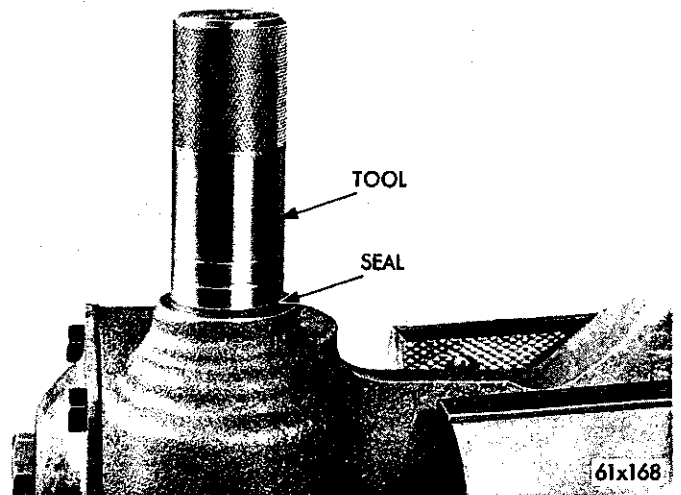

Fig. 9—Installing the Worm Shaft Oil Seal
(3) Drive the oil seal into the housing bore with Tool C-3821 (Fig. 9).